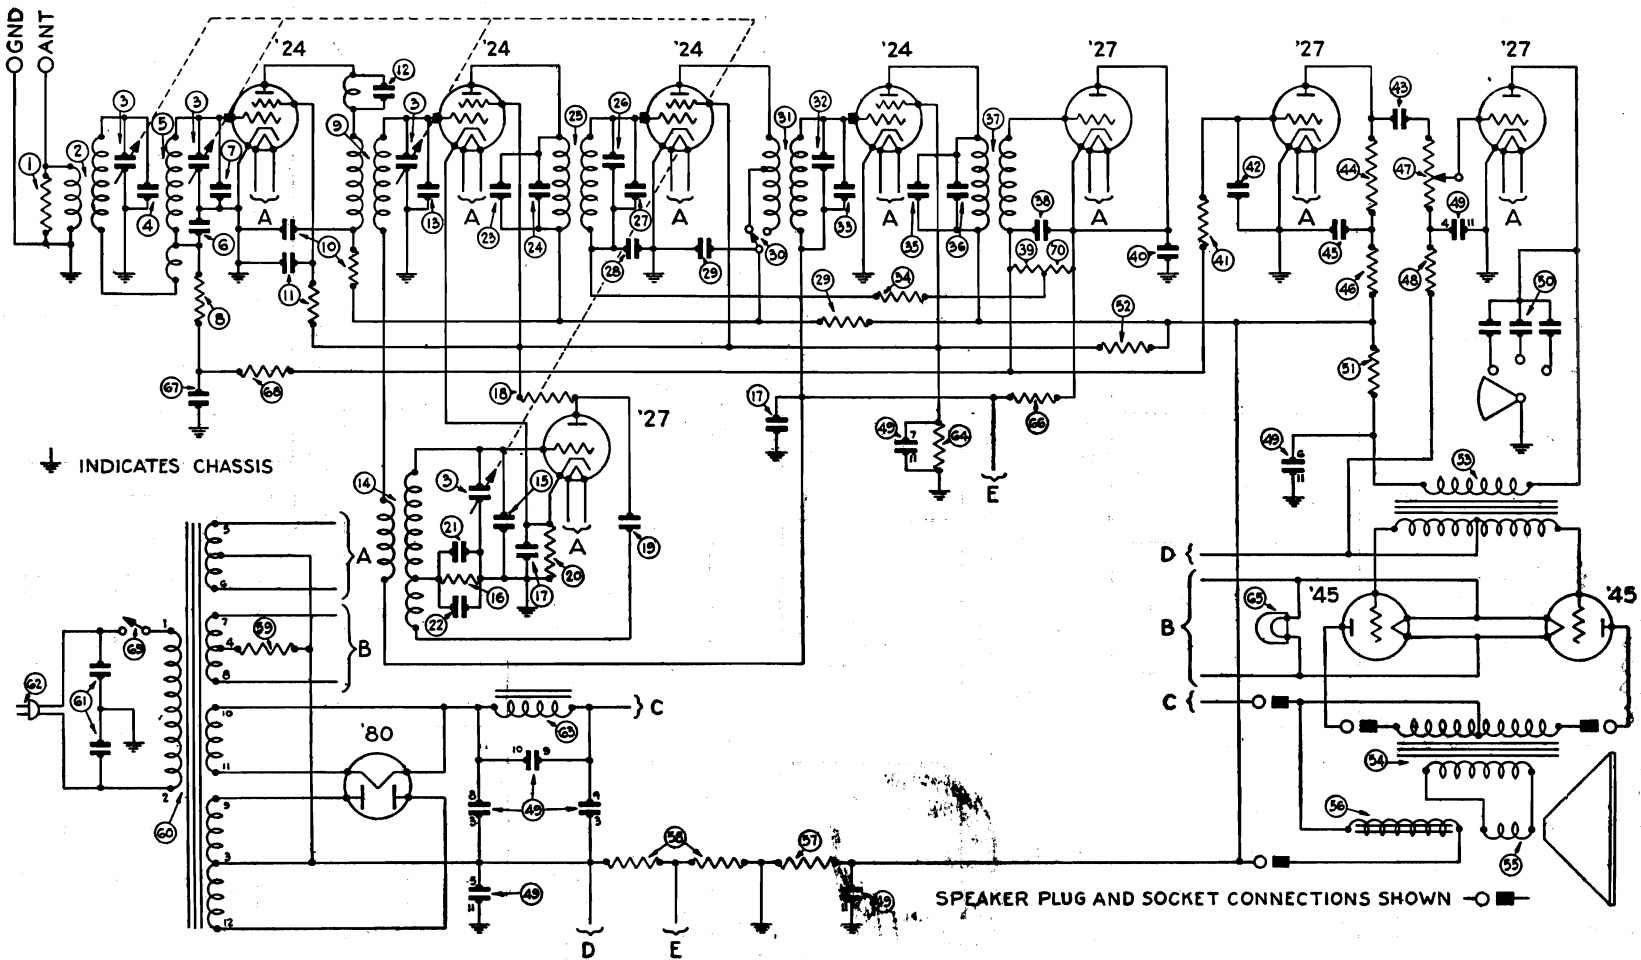

Fig. 3
The Range Switch, No. ⑩ in Fig. 3, is placed in the NORMAL position when the Receiver is shipped. This gives great distance range and is the setting which will be found most satisfactory in practically all locations. In places far from broadcasting stations, however, the Range Switch may be changed to the MAXIMUM position. This will make the Receiver super-sensitive and will give extreme distance range. Do not use the Range Switch in the MAXIMUM position if there are one or more powerful broadcasting stations near you. In any location there will be less noise between stations with the Range Switch in the NORMAL position.